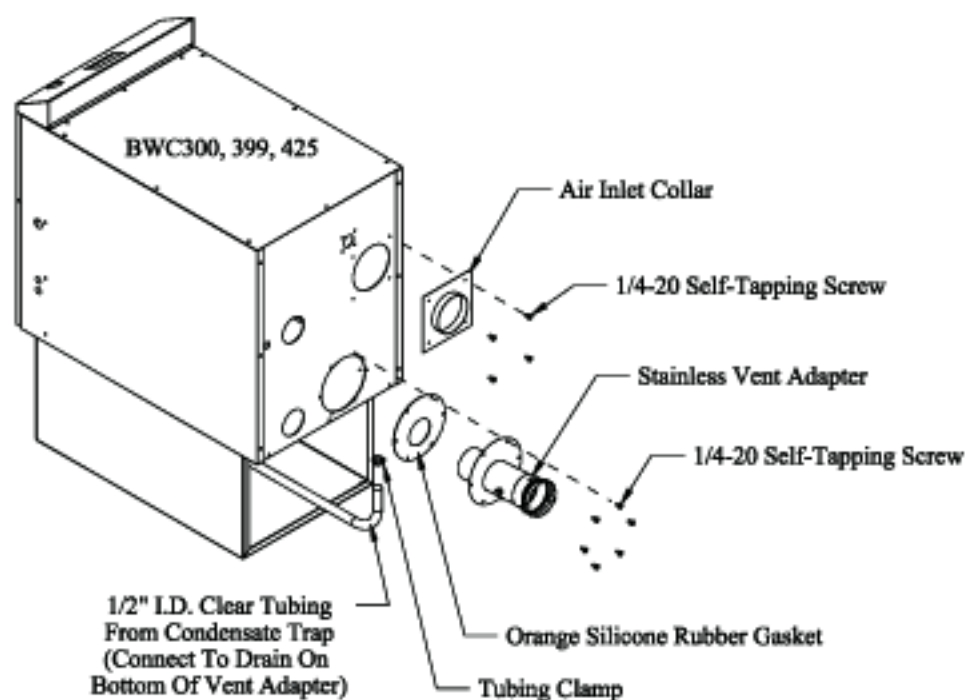

FIGURE 6.11: TWIN PIPE ADAPTER ASSEMBLY (VENT OPTIONS 1,2,3,7,8&9)
- 1) Stainless Vent Adapter Installation - The stainless vent adapter and air intake collar are shipped loose and must be installed on the boiler before the vent system can be attached to the boiler. (see Fig. 6.11)
- d) Attach the vent adapter to the rear jacket panel with the (6) 1/4-20 self tapping screws supplied with the boiler.